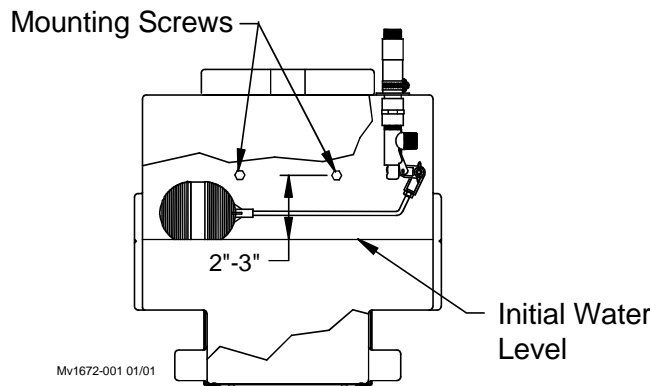

Figure 1. Initial Water Level
- Set the initial water level 2" to 3" (51mm to 76mm) below the Mounting Screws in the back of the Sump (See **Figure 1**).